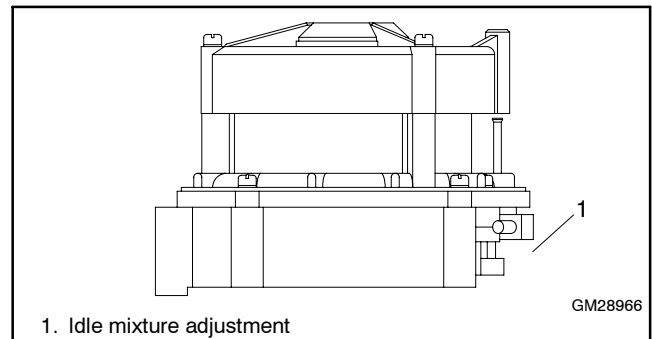

Figure 10 100/125 kW with Nolff 475 Style Fuel Mixer
- 5.3 **100 and 125 kW (with single fuel) generator sets.** Nolff N16-475-5A and N16-475-9A style fuel mixers used on 100 kW 8.1 L GM and 125 kW 8.1 L GM turbocharged engines. See Figure 10. This fuel mixer style does not have a fuel mixture adjustment.
- 5.3.7 Adjust the idle mixture adjustment (Figure 10) to obtain a no-load oxygen sensor voltage reading within specifications.
5.4.8 Adjust the idle mixture adjustment (Figure 10) to obtain a no-load oxygen sensor voltage reading within specifications. See Figure 2.